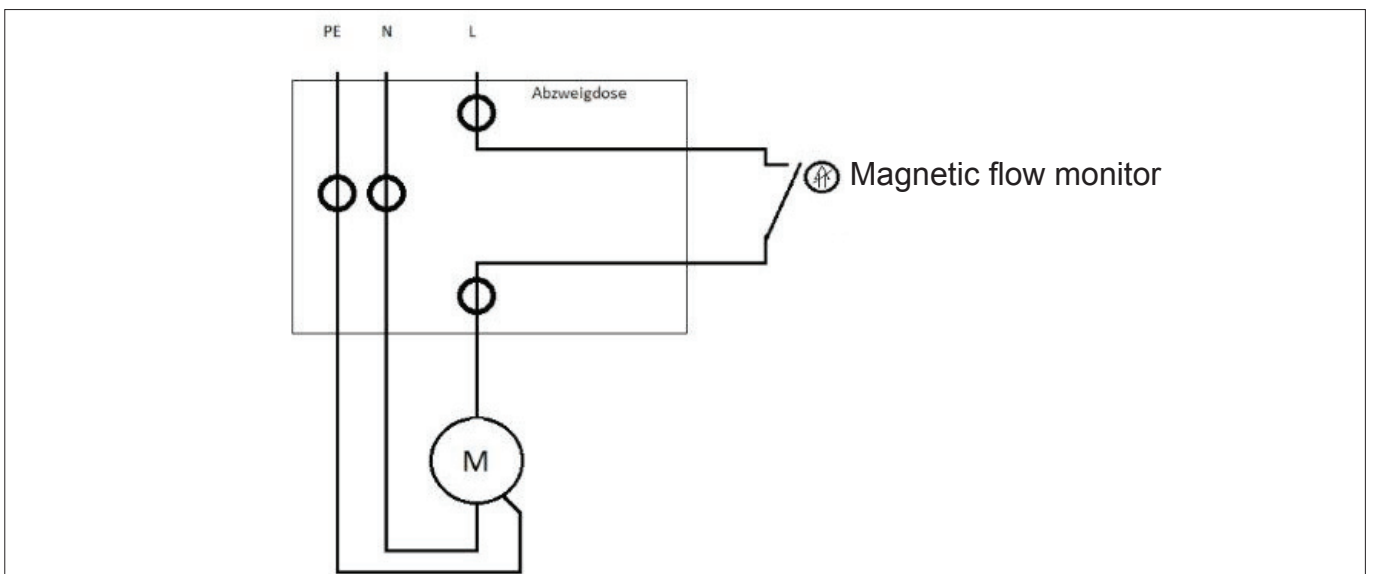

Fig. 11: Flow switch electric diagram
3. Connect the wiring from the circulation pump to the junction box (see electric diagram, Fig. 11 on page 19).
6. Disconnect the wiring of the flow switch (item B) in the junction box (Fig. 11 on page 19).
3. Connect the wiring from the flow switch to the junction box (see electric diagram, Fig. 11 on page 19).